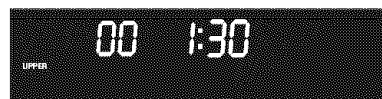

Figure 2
1. Press and hold  for 6 seconds. The preset adjustment number will appear and "UPPER" will flash in the display (Figure 2).